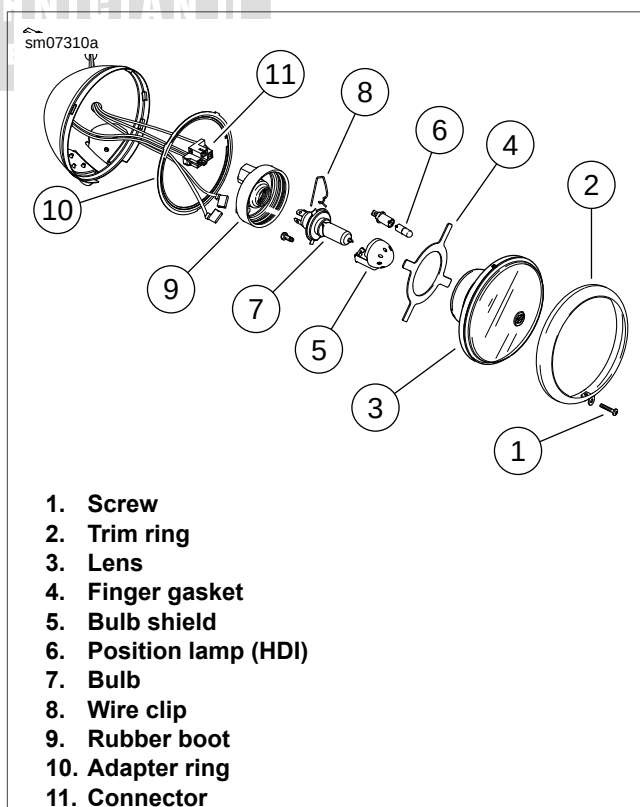

Figure 6-36. Headlamp Assembly: XL 1200V/C/CP/CA/CB
- b. **XL 1200V/C/CP/CA/CB:** See Figure 6-36. Remove the screw (1) and the trim ring.
2. Hold the lens and compress the release tabs of the bulb connector (11) to disconnect from spade terminals.
3. Pull the rubber boot (9) from back of the lens.
4. Compress the ends of the retaining clip (8) to release from the retaining tabs and pivot retaining clip back.
5. Remove and replace the bulb (7).